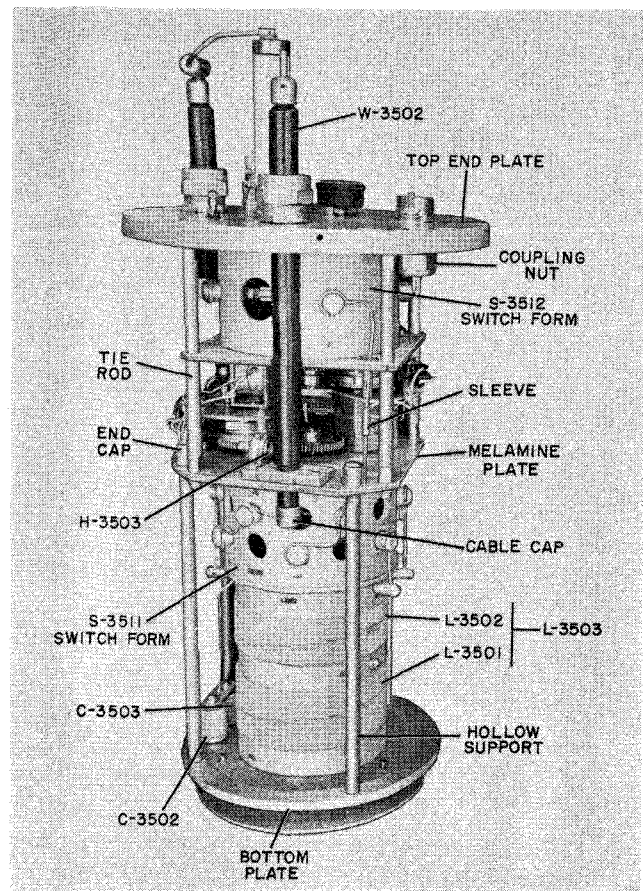
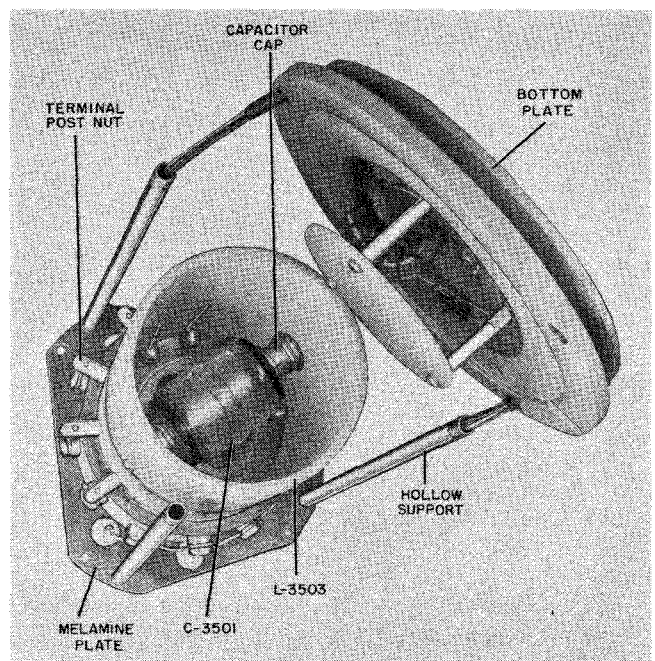

Figure 7-100. Antenna Coupler CU-372/SRT, Less Housing
Figure 7-102. Antenna Coupler CU-372/SRT, Loading Section
Step 3. The housing and unit may be separated by axially removing one from the other. Note that the housing remains mounted in the shock mount assemblies. At this point the inner components of the antenna coupler are accessible (figure 7-100).
Step 1. Unsolder sleeve (figure 7-100) and slide sleeve back on conductor.
Step 2. At this point, stator contacts on switch form of S-3512 may be removed and replaced by using the special tool, H-3503, mounted on the unit (figure 7-100). Contact button assemblies may be removed, allowing contact E-3501 or spring O-3502 to be replaced. See contact button assembly detail of figure 7-98.
Step 2. Contact buttons on S-3511 switch form may be removed and replaced by means of the special tool, H-3503, mounted on melamine plate. (See figure 7-100.)
cedures indicate trouble with vacuum capacitor C-3501 or coil L-3503, a step-by-step disassembly procedure should be followed. (Refer to figures 7-100 and 7-102.)
Step 1. Loosen the end caps, figure 7-100, to allow the four hollow supports to be unthreaded from the bottom plate. The bottom plate and components mounted on it can now be hinged back on the three cables that pass through the hollow supports. (See figure 7-102.)